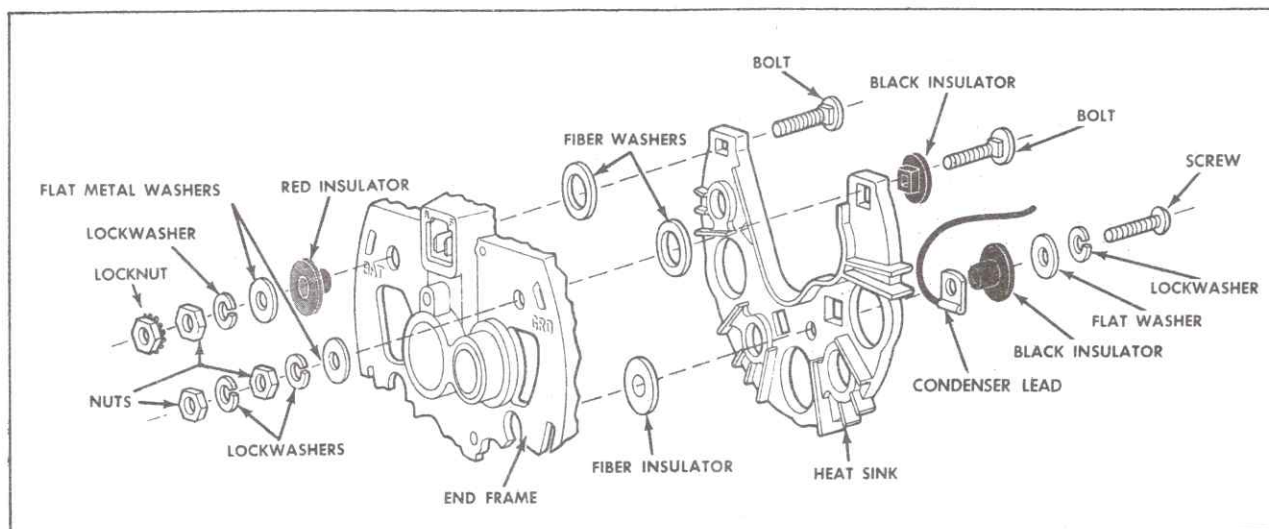

Fig. 6-37 Heat Sink Disassembled
2. If necessary, replace heat sink by removing two terminal bolts and capacitor lead retaining screw. Carefully note arrangement of parts so that BAT and GRD terminals are replaced in the same order, Fig. 6-37.
5. Reassemble capacitor lead to heat sink carefully noting arrangement of parts, Fig. 6-37 and secure lead to heat sink with attaching screw.